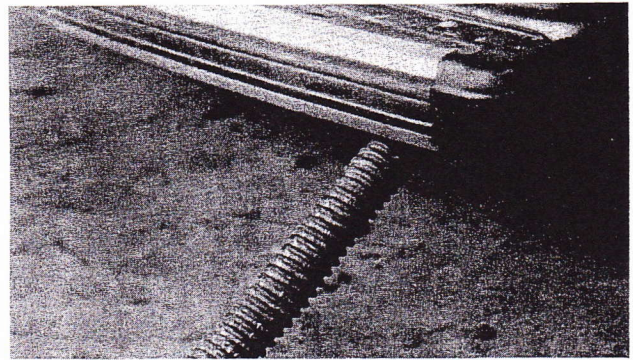

FIGURE 2-13 Removing carbon monoxide.
Run the engine only in a well-ventilated area to avoid the danger of poisonous carbon monoxide (CO) in the engine exhaust. If the shop is equipped with an exhaust ventilation system (Figure 2-13), use it. If not, use a hose to direct the exhaust out of the building.